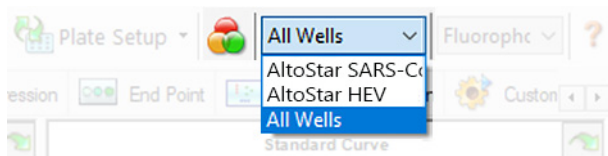

Figure 4: Well Group button and Well Group drop-down menu
In the Data Analysis window ensure to select the **Well Group** of the AltoStar® SARS-CoV-2 RT-PCR Kit 1.5. Therefore, click on the **Well Group** drop-down menu right next to the **Well Group** button (see figure 4) of the toolbar. Do not use the “All Wells” **Well Group**. The selection in figure 4 is used as a general example view.
1. In the Data Analysis window ensure to select the **Well Group** of the AltoStar® SARS-CoV-2 RT-PCR Kit 1.5. Therefore, click on the **Well Group** drop-down menu right next to the **Well Group** button (see figure 4) of the toolbar.